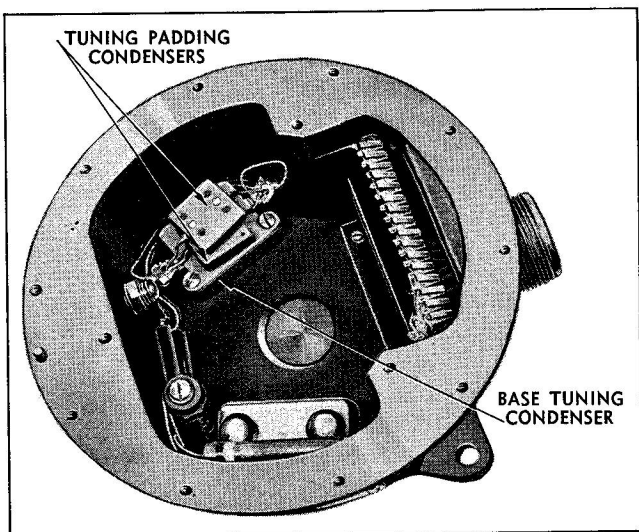

Figure 5-12 Tuning Condensers in Base Assembly
21. The signal from the flux valve compass synchro is tuned to 740 cycles by means of a base capacitor and one or two padding capacitors. These capacitors are located in the base of the Directional Gyro Control. (See figure 5-12.) The circuit must be checked for proper tuning whenever the flux valve synchro rotor or stator is replaced. A schematic wiring diagram for the test is shown in figure 5-13. An assortment of capacitors in the range .001 mfd to .01 mfd should be available (refer to the parts list).
(1) Remove the frame assembly from the base. On top of the base tuning capacitor will be found either one or two padding capacitors. (See figure 5-12.) Unsolder and remove these capacitors. Leave the base capacitor in the base. Reassemble the frame assembly and base.
(2) Adjust the capacitance decade until a straight line appears on the oscilloscope. Check the vtvm to see that the oscillator voltage and frequency have not changed.
(3) Select, from the assortment of padding capacitors, either one or two capacitors whose total value will equal that shown on the capacitance decade. Connect the selected capacitors